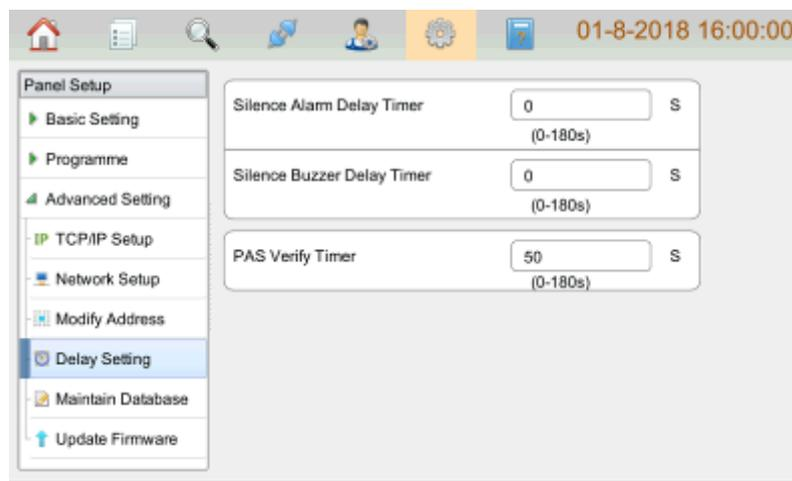

Fig 4.35
- Delay Setting: Users can set delay based on the actual situation by clicking **Delay Setting** in **Advanced Setting** menu as shown in Fig 4.35. Delay for Silence, Mute and PAS can be set.